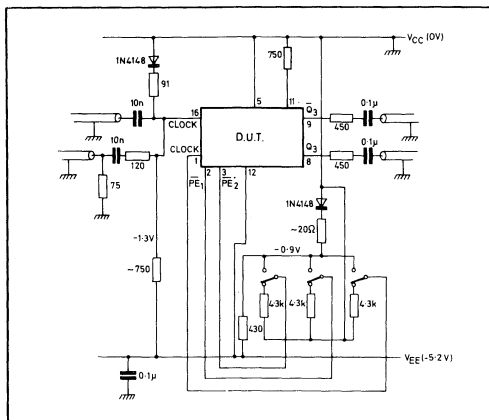

Fig. 5 Test circuit for dynamic measurements
- The devices are dynamically tested using the circuit shown in Fig.5. The bias chain has the same temperature coefficient as ECL III and ECL 10K, and therefore tracks the input reference throughout the temperature range. The devices are tested with input amplitudes of 400 and 800 mV p-p about that reference, over the full temperature range.